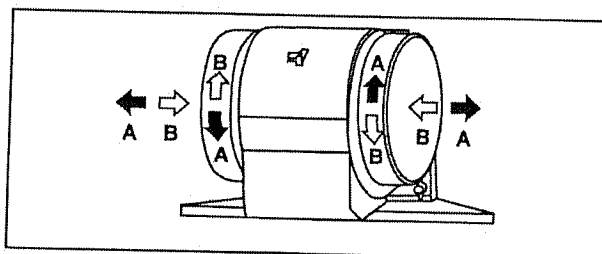

Fig.6
- The active carbon filters purify the air that is replaced in the environment. The filters are not washable nor reuseable and must be replaced at maximum every four months. The saturation of the active carbon filter depends on the frequency of use of the appliance, by the type of cooking and the regularity of cleaning the anti-grease filters. (Fig 6) To remove the charcoal filters place on hand on one filter at a time and turn it toward the front part. The charcoal filter can now be removed. Always ensure to replace both filters at the same time.